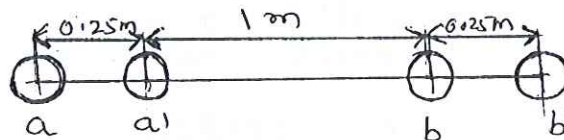

Fig Q5(b)
- b. A single phase line consists of two circuits in parallel as shown in Fig Q5(b). Conductors a and a' in parallel form one conductor while b and b' in parallel form the return path. Calculate the total inductance of the line per km assuming that current is equally shared by the two parallel conductors. The diameter of each conductor is 20mm. (06 Marks)